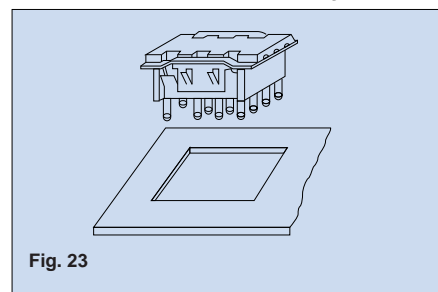

Fig. 23
• The reversible terminal sockets (HC, HL socket) are for one-touch mounting. (A panel thickness of 1 to 2mm **.039 to .079 inch** should be used.) (Fig. 23)